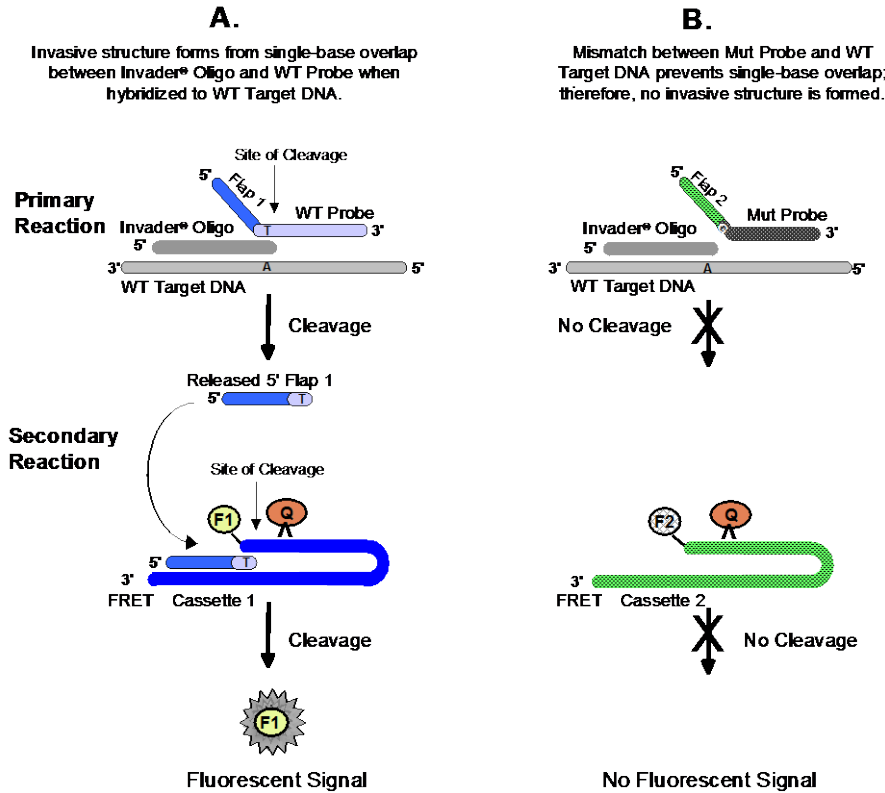

Figure 1.
The Invader DNA Assays use Cleavase enzymes to recognize and cleave specific structures formed by the addition of two oligonucleotides to a nucleic acid target (Figure 1).
In the Invader DNA Assay, two oligonucleotides (a discriminatory Primary Probe and an Invader Oligo) hybridize in tandem to the target DNA to form an overlapping structure. The 5'-end of the Primary Probe includes a 5'-flap (arm) that does not hybridize to the target DNA (Figure 1). The 3'-nucleotide of the bound Invader Oligo overlaps the Primary Probe, but need not hybridize to the target DNA. The Cleavase enzyme recognizes this overlapping structure and cleaves off the unpaired 5'-flap (arm) of the Primary Probe, releasing it as a target-specific product. The Primary Probe is designed to have a melting temperature close to the reaction temperature. Thus, under the isothermal assay conditions, Primary Probes, which are provided in excess, cycle on the target DNA. This allows for multiple rounds of Primary Probe cleavage for each target DNA, and amplification of the number of released 5'-flaps (arms).
In the secondary reaction, each released 5'-flap (arm) can serve as an Invader Oligo on a fluorescence resonance energy transfer FRET Cassette to create another overlapping structure that is recognized and cleaved by the Cleavase enzyme (Figure 1). When the FRET Cassette is cleaved, the fluorophore (F) and quencher (Q) are separated, generating detectable fluorescence signal. Similar to the initial reaction, the released 5'-flap (arm) and the FRET Cassette cycle, resulting in amplified fluorescence signal. The initial and secondary reactions run concurrently in the same well.